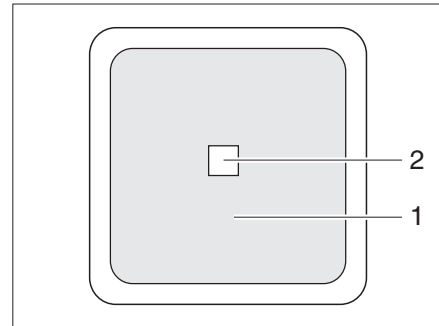

Fig. 259 External switch
- II "Remo." = unit can be switched on and off at the external switch (Fig. 259,1).
The external switch for the converter (Fig. 259) is located in the interior of the vehicle or in the garage. The switch is labeled with "Converter". The LED (Fig. 259,2) indicates the operating state of the converter.